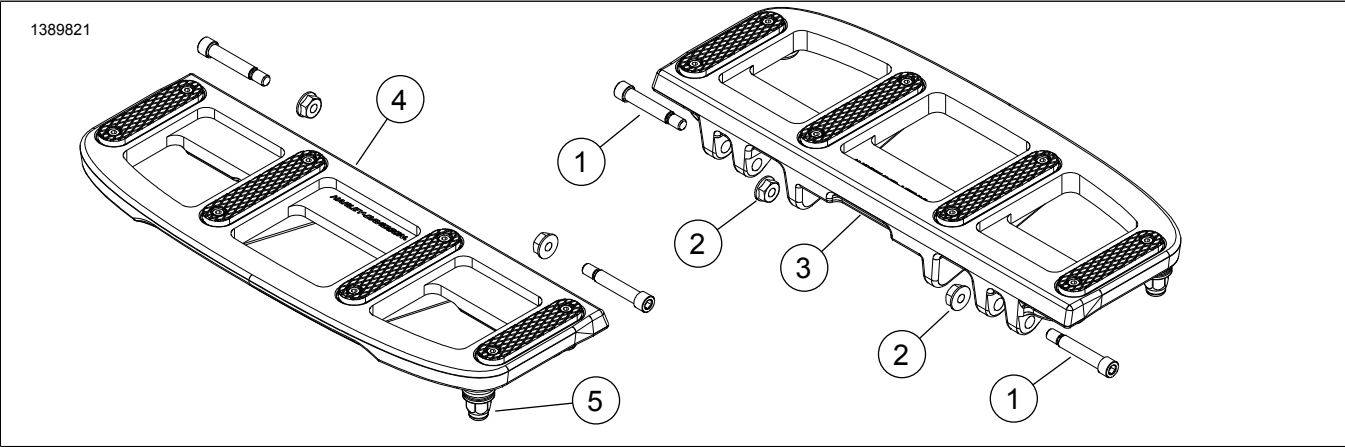

Figure 1. Kit Contents: Rider Footboard Components
1. See Figure 1. Set correct footboard in place over mounting brackets. Wear peg should be toward rear of vehicle.
2. Align holes, install pivot screws (1) and locking nuts (2).